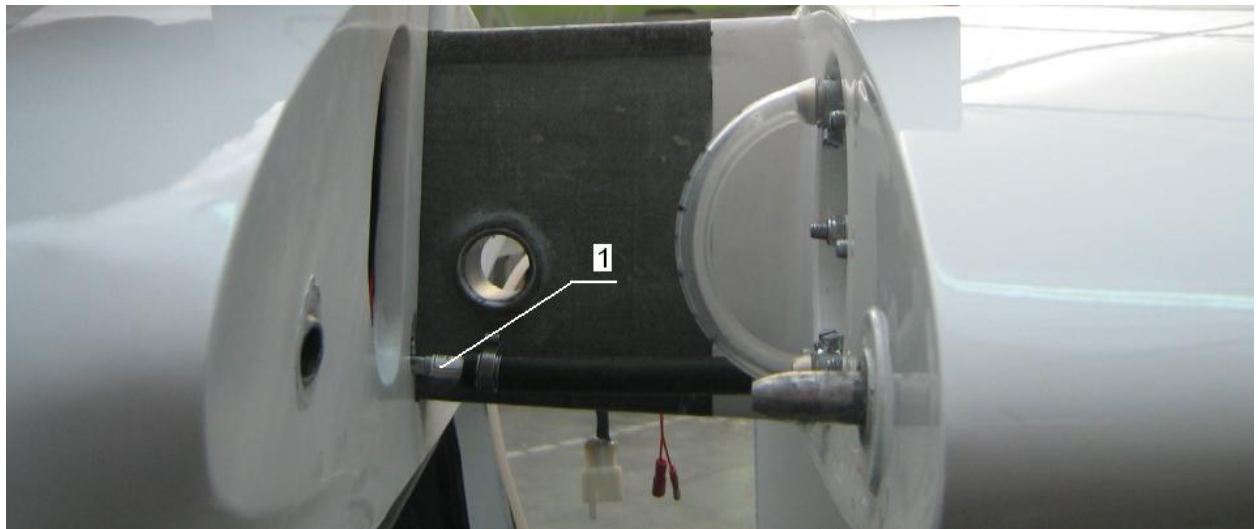

Fig. 3
- 1) Set each wing with the tongue into the spar box KA1001400 with clearance 0.75-1ft between the fuselage and the wing root rib (Fig. 3); insert the intake fuel line with the connecting pipe (1) to the fuselage.